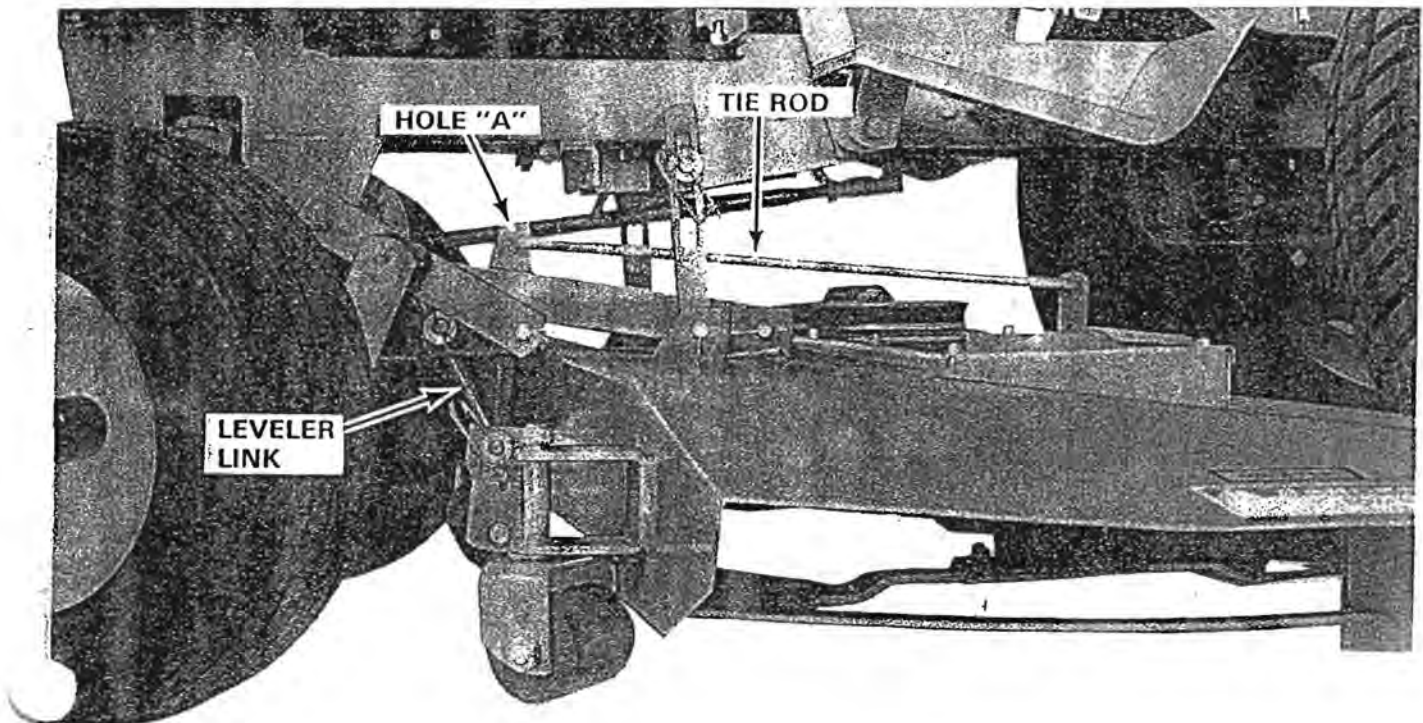

FIGURE 19
7. Insert the leveler link through the holes from the right hand side and with the threaded end up. Secure the top with a washer and cotter pin. Secure the bottom with a washer and safety pin. See Figure 19.
3. Remove the forward end of the tie rod from hole "A" Figure 19.